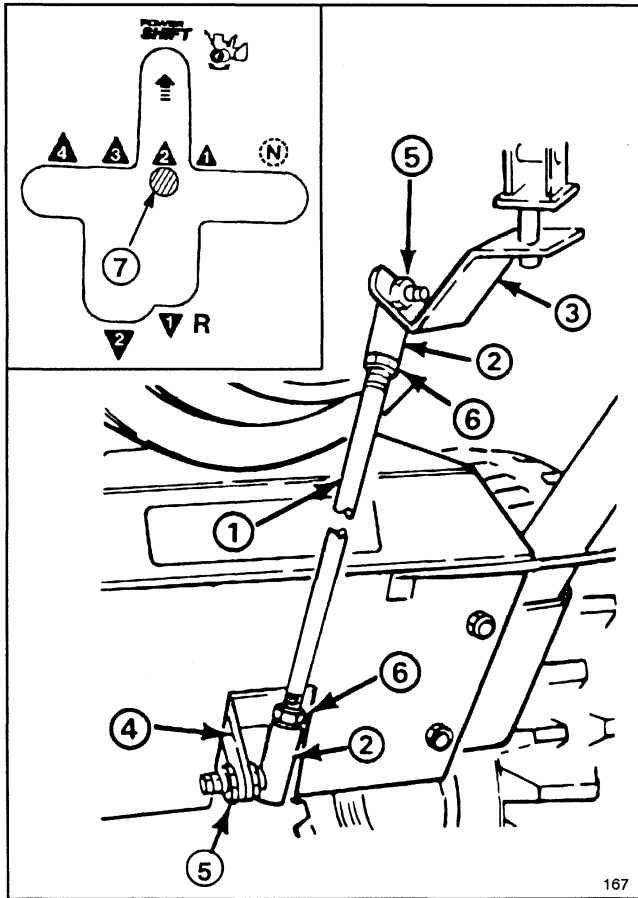

Figure 36
7. Chain adjustment will affect gearshift lever alignment. If gear shift lever is not aligned with Power Shift slot in control panel (Fig. 36, inset), shift rod length must be adjusted as follows: